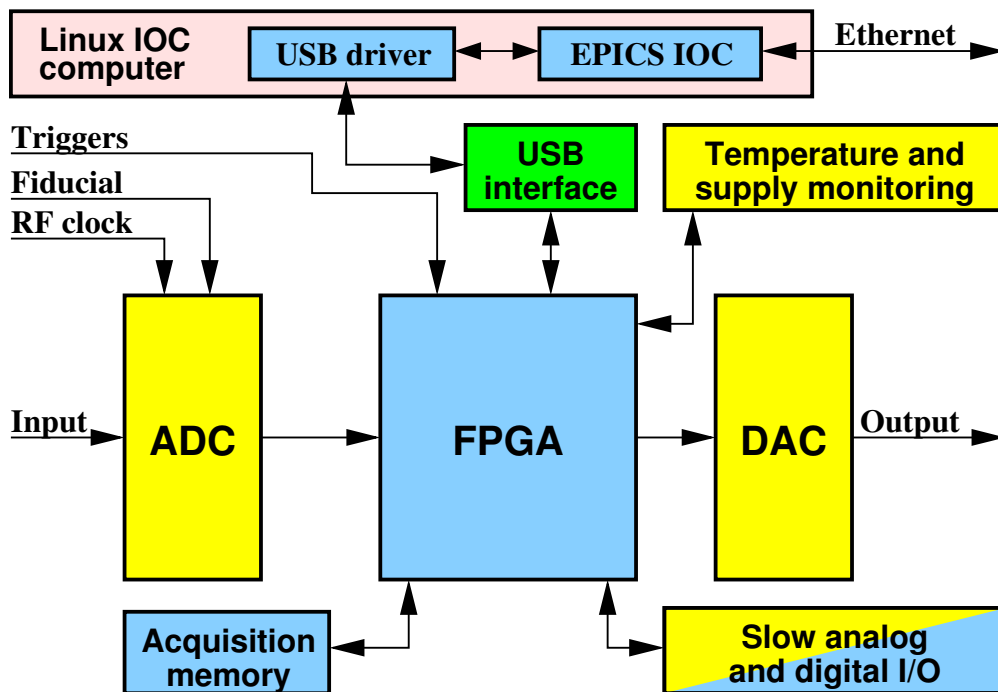

Figure 1: iGp12-176F block diagram
A block diagram of the iGp12-176F system is shown in Figure 1. The main signal processing chain consists of a high-speed 12-bit analog-to-digital converter (ADC), a field programmable gate array (FPGA), and a high-speed 12-bit DAC, all driven by the radio frequency (RF) clock. In addition to performing real-time control computations, the FPGA interfaces to a number of on-board devices, such as high-speed data acquisition memory (static random access memory (SRAM)), low-speed analog and digital input/output (I/O), as well as temperature and supply voltage monitors. In turn, the FPGA uses an internal universal serial bus (USB) connection to communicate to an embedded input-output controller (IOC) computer housed in the same chassis. The IOC runs the Linux operating system and is connected to the overall control system via the Ethernet.